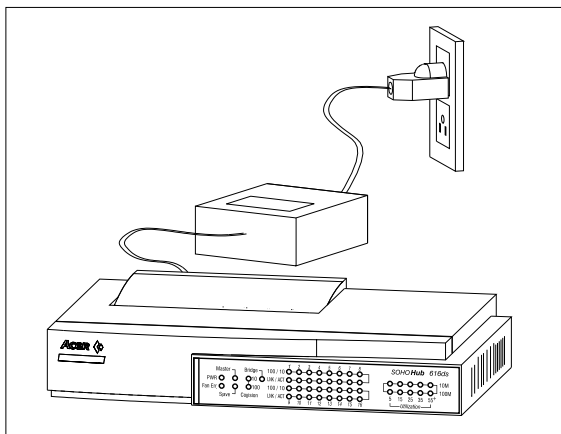

Figure 2-5 Power on the hub and make it ready
2.1.5 Plug the power cord into the outlet on the wall and check if the power LED lights up. If it lights up, then the hub is ready to be connected to the network, as shown in Figure 2-5.